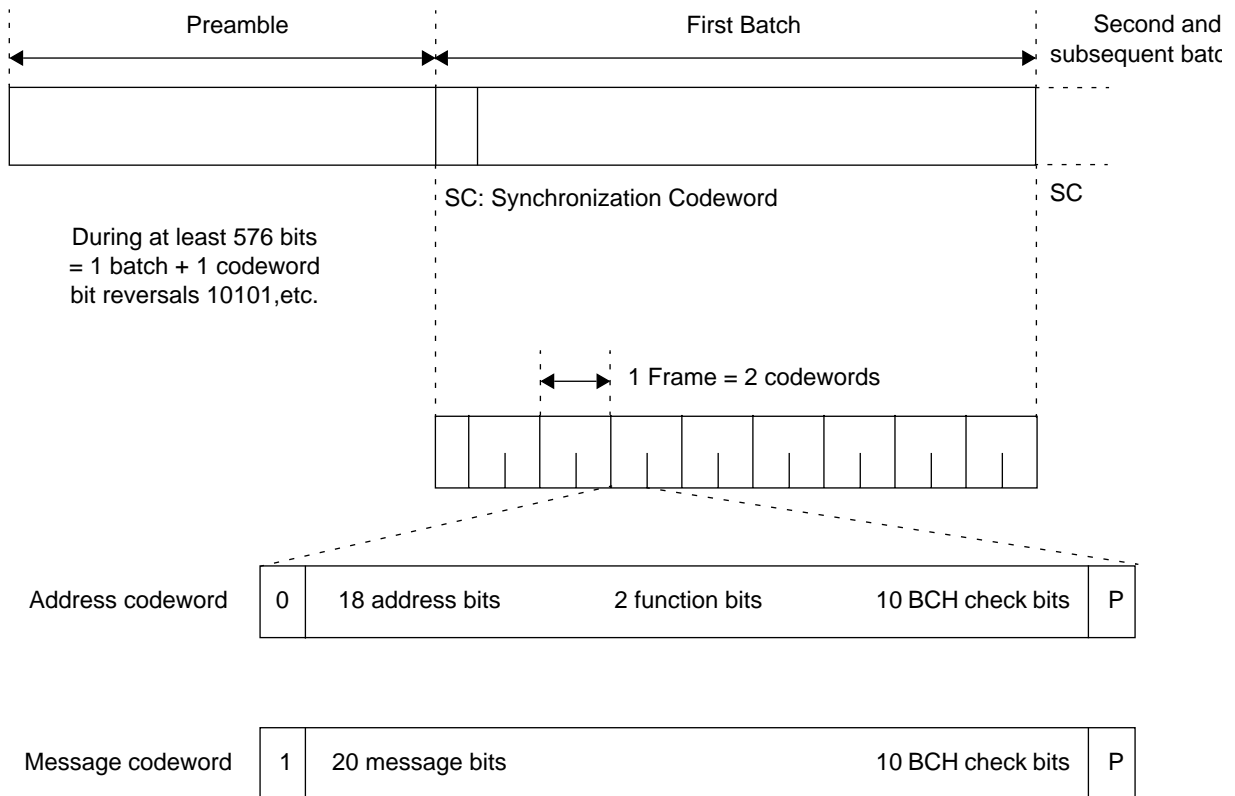

Figure 12-1. CCIR Radiopaging Code No.1 Format
The transmission of data using CCIR Radiopaging Code No.1 is shown in **Figure 12-1**. It consists of a preamble followed by batches of complete codewords, each batch commencing with a synchronization codeword (SC). Transmission may cease at the end of a batch when there are no further calls.